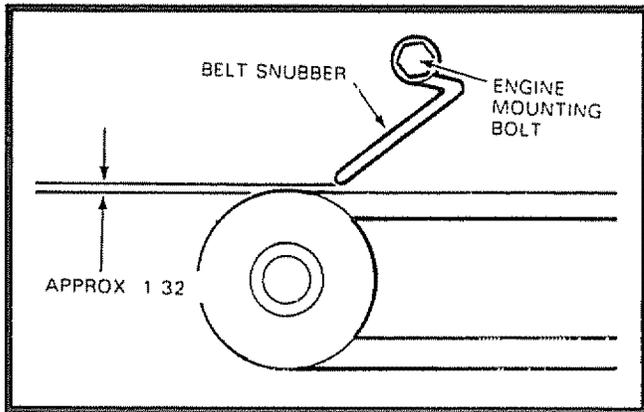

FIG. 20A
- Loosen Engine Bolt holding Belt Snubber. See Fig. 20A, and slip Belt off of Engine Pulley.
- To install Belt, slip Belt over Blade, push up under Plastic Baffle and slip under Belt Keeper onto Driven Pulley. Tilt Drive Assembly forward to allow Belt to seat into Engine Pulley. Readjust Engine Pulley Belt Snubber and tighten Bolt (See Fig. 20A).